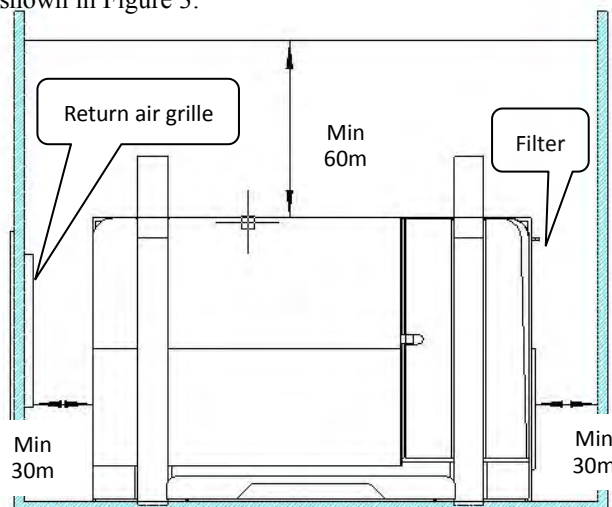

Figure 3-Minimum spacing for a fully enclosed unit with the return air grille on opposite sides to the filter
- If the return air grille is placed low down in front of the unit then the minimum distances to surrounding walls are shown in Figure 3.